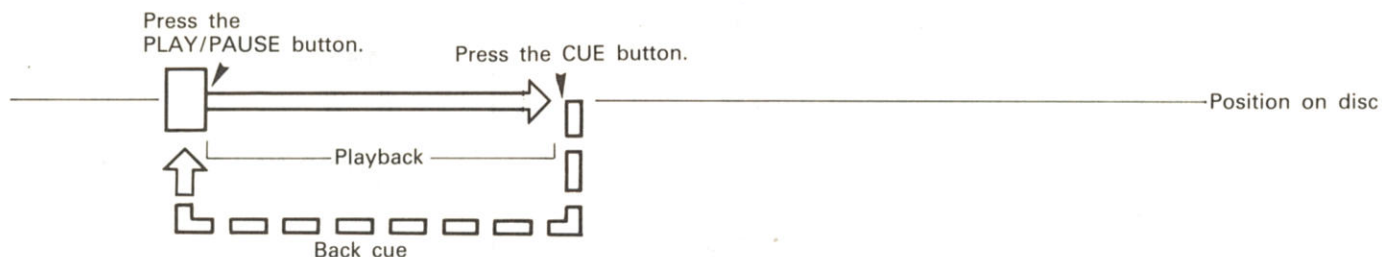

Figure 17
- When the CUE button is pressed during playback, playback returns to the position from which it started. (Back cue) See figure 17.